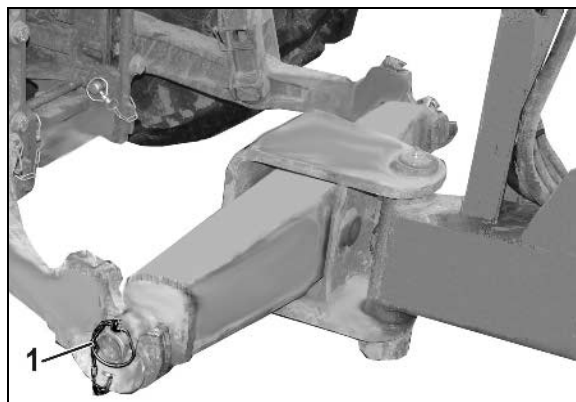

Fig. 44
2. Secure the lower link pins from being released unintentionally using clip pins (Fig. 44/1).